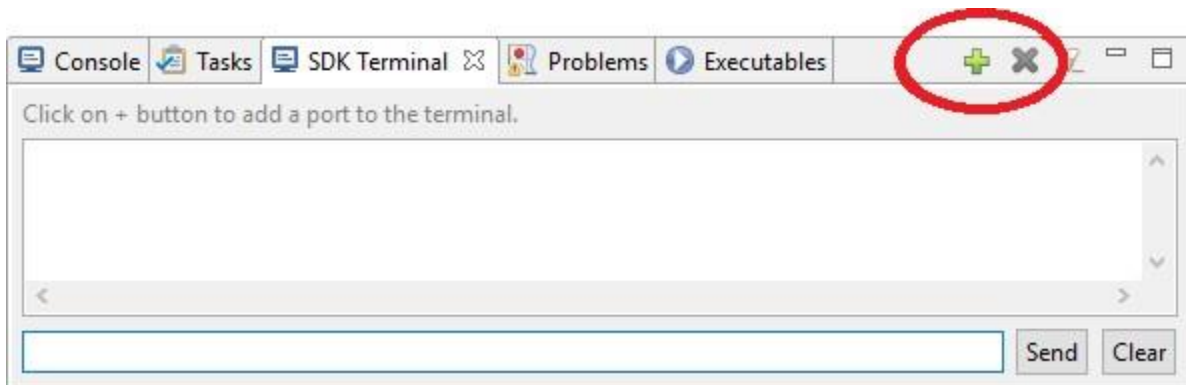

Figure 32: Creating a new serial connection.
8. To connect to the ZedBoard serial port, select the **SDK Terminal** tab in the console panel, then click the  to create a new serial connection, as in Figure 32.